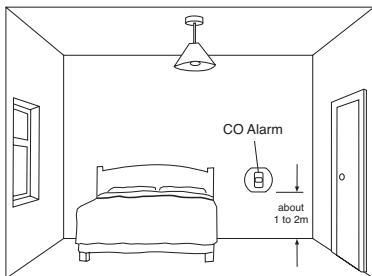

Figure 3
3.4 If locating the CO Alarm in a bedroom or in rooms remote from a fuel burning appliance (see figure 3)